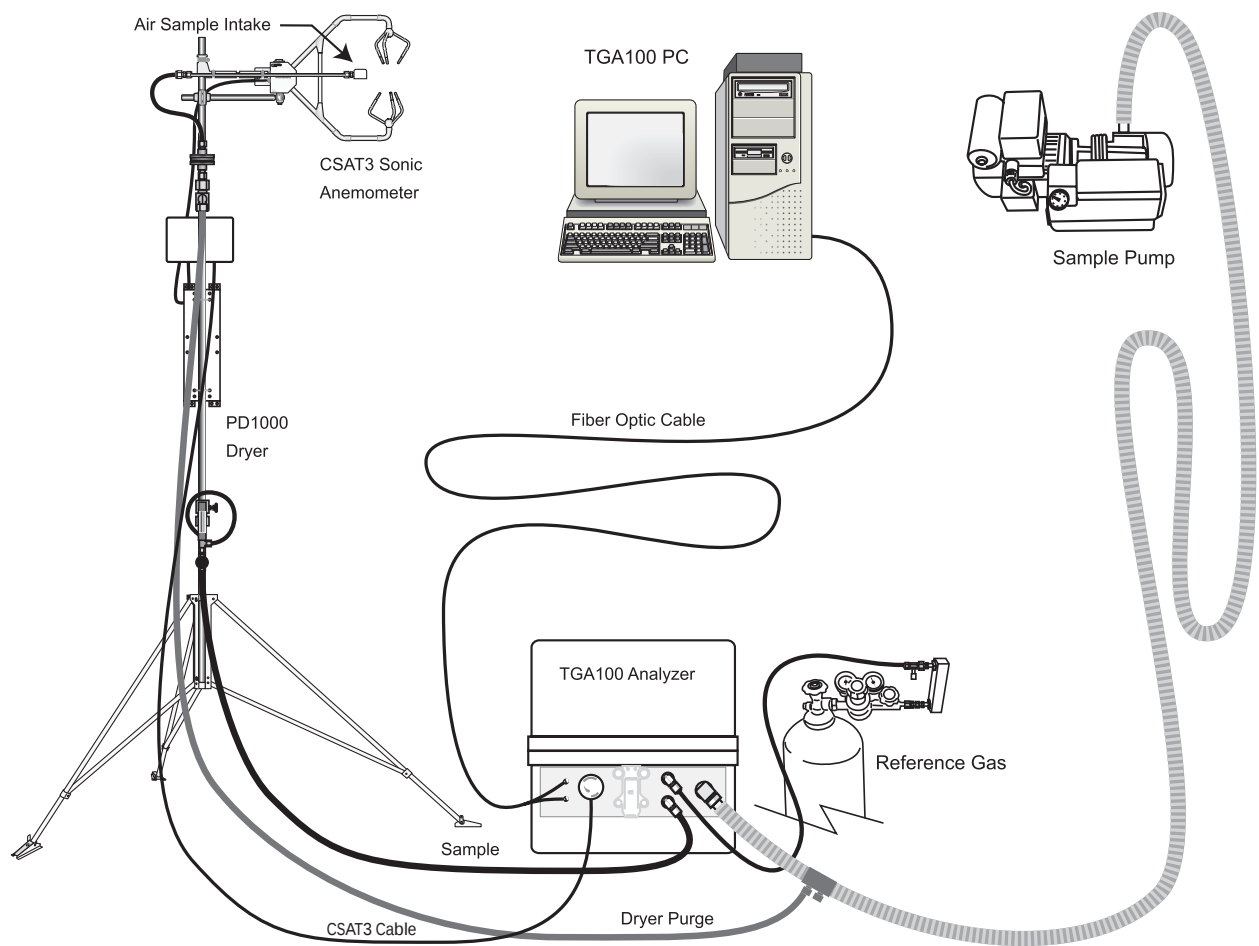

Figure 6-1. Example Eddy Covariance Flux Application
The TGA100's sample rate, frequency response, sensitivity and selectivity are optimized for measuring trace gas fluxes using the eddy covariance (EC) method. It is designed to collect three-dimensional wind data from a CSAT3 sonic anemometer while synchronously measuring trace gas concentration. Figure 6-1 illustrates a typical EC application. The sonic anemometer and air sample intake are mounted on the measurement mast. Tubing connects the air sample intake to the inlet of a PD1000 sample air dryer, which filters and dries the air sample. A needle valve at the outlet of the PD1000 sets the sample flow rate, typically to approximately 15 slpm. The TGA100 analyzer is located near the base of the measurement mast to minimize the length of sample tubing. This avoids the attenuation of high frequencies in the concentration data that can be caused by excessive tubing length. The TGA100 PC requires shelter from the environment, but can be located up to 500 m (1650 ft) away from the TGA100 analyzer, connected by fiber optic cable. The sample pump requires minimal shelter and can be located up to 90 m (300 ft) away from the analyzer, connected by the suction hose. The CSAT3 connects to the TGA analyzer by way of a TL925 serial interface module, which can be mounted inside the analyzer enclosure for protection from the environment.